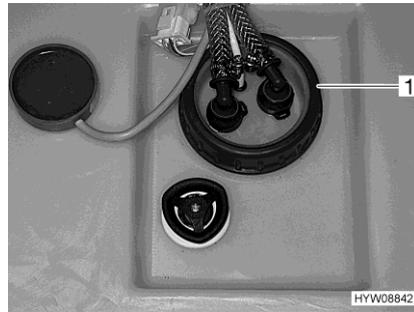

Fig. 141 Cleaning opening (water tank)
- Remove the cap (Fig. 141,1) of the water tank.